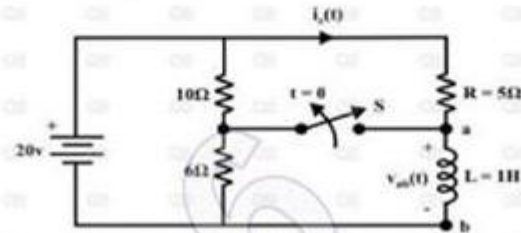

Figure 1
- 1.a) For the circuit shown below in Figure 1 the switch 'S' that has been closed for a long time and then opens at $t=0$.